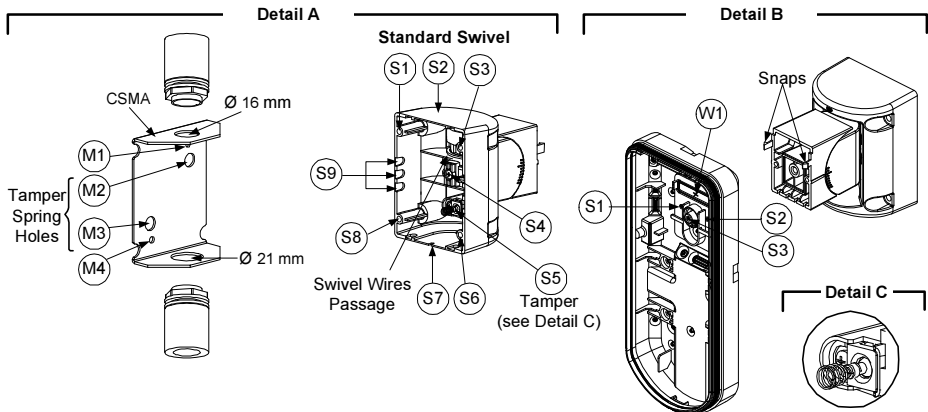

Figure 7
3. Open knockouts on external base (Figure 7, Detail B)
4. On the swivel accessory remove the required swivel cable wiring knockout S2, S7 or S9 (Figure 7, Detail A).
5. Remove back tamper from the internal base (see "Changing Back Tamper Position" paragraph) and connect it to S5 (Figure 7, Detail A) on the Standard Swivel.
- a. Insert external cable wiring through knockouts S2, S7 or S9 and extract them (including the tamper wires) through the Swivel Wires Passage (Figure 7, Detail B).
Swivel Conduit Mounting (using optional Conduit Metal Swivel Adaptor – CSMA, Figure 7, Detail A)
- d. Insert external cables and tamper wires from the conduit through the swivel wires passage of the swivel (Figure 7, Detail A).
The Tamper spring S5 (Figure 7) should make contact with the wall through the tamper spring holes M2 or M3 on the CSMA. Make sure to hear the tamper "Click" when connecting to the wall.
7. Insert tamper wires and external cable wiring from Standard Swivel through knockout W1 on the external base (Figure 7, Detail B).